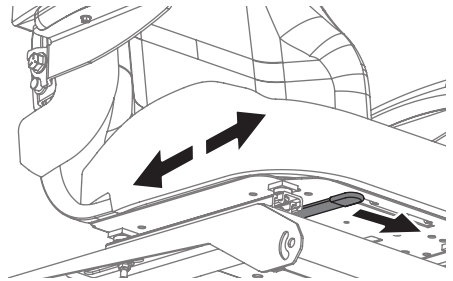

Figure 14
3. Release the adjustment lever. Ensure seat is locked into position before operation. See Figure 14.